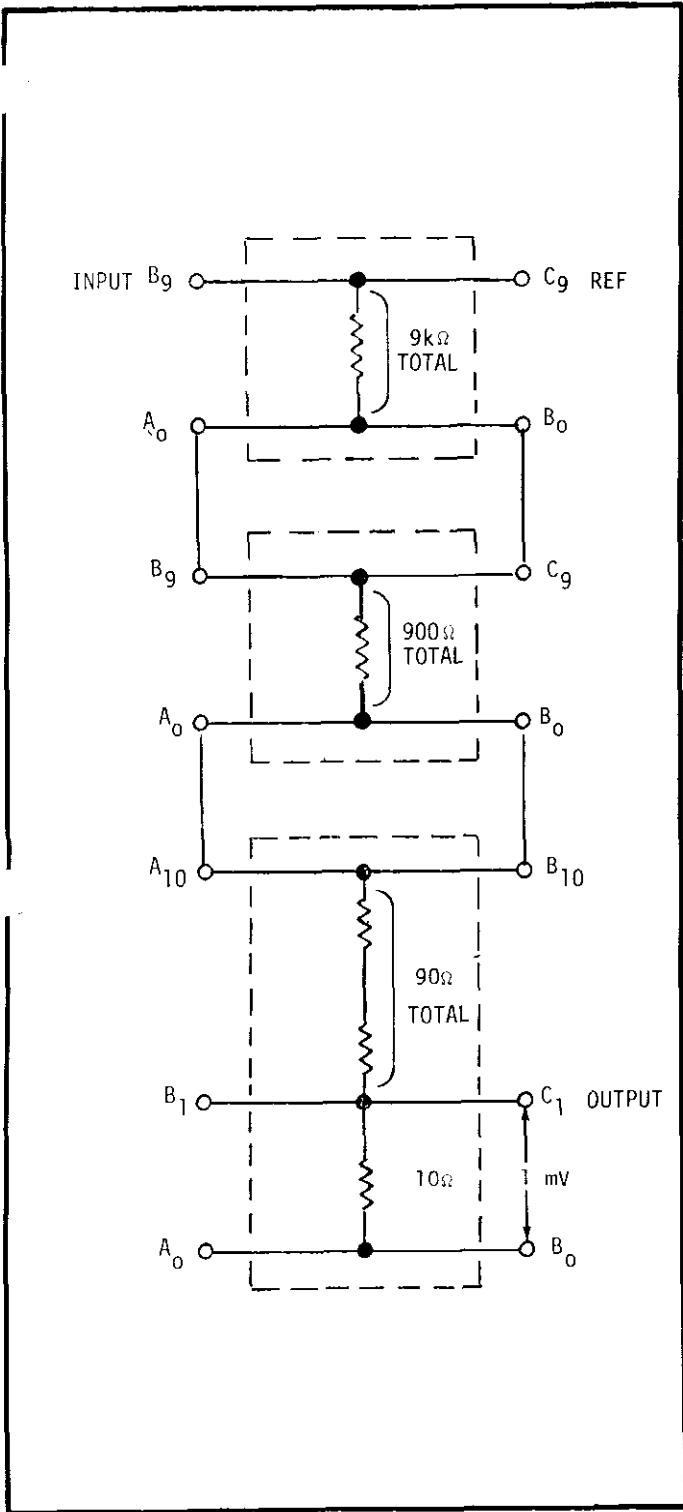

FIGURE 40. Voltage Divider Connections, 1mV Output.
- a). Connect Voltage Divider for 1:1000 division ratio as shown in Figure 40.